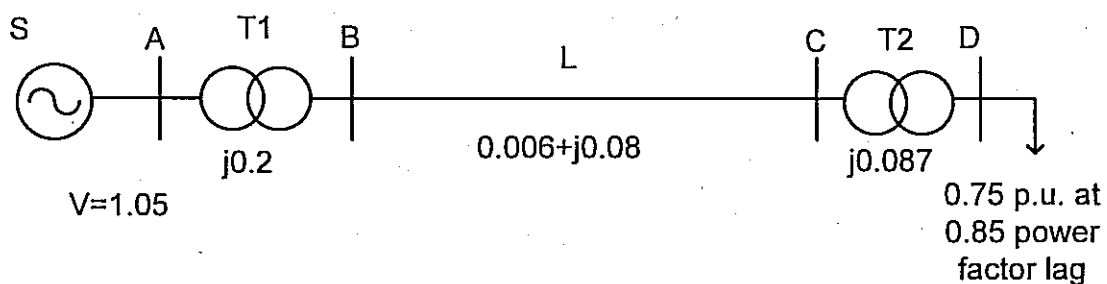

Figure Q4
- I. Certain generator G delivers power to a large system S which can be considered as infinite bus. A load centre is connected between generator and system (shown in figure Q4). Parameters of the elements of the system in p.u. on common base are indicated in the figure.
- II. Figure Q4 shows single line diagram of a radial distribution system. Parameters of the system elements are given in p.u. on common base. Voltage at System S is maintained at 1.05 p.u. and power of the load is 0.75 p.u. at 0.85 power factor lagging.